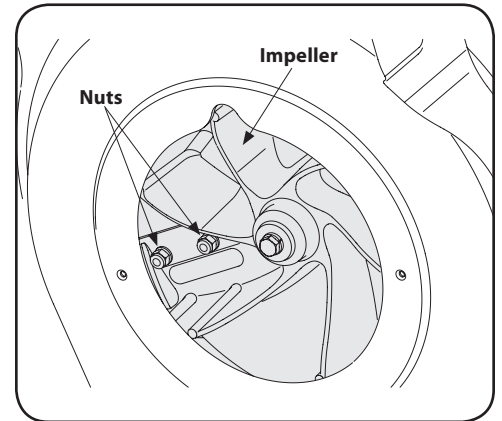

Figure 5-9
10. The nuts on the flat head cap screws can be reached from underneath using a 1/2-inch socket, universal, and extension. See Figure 5-9.